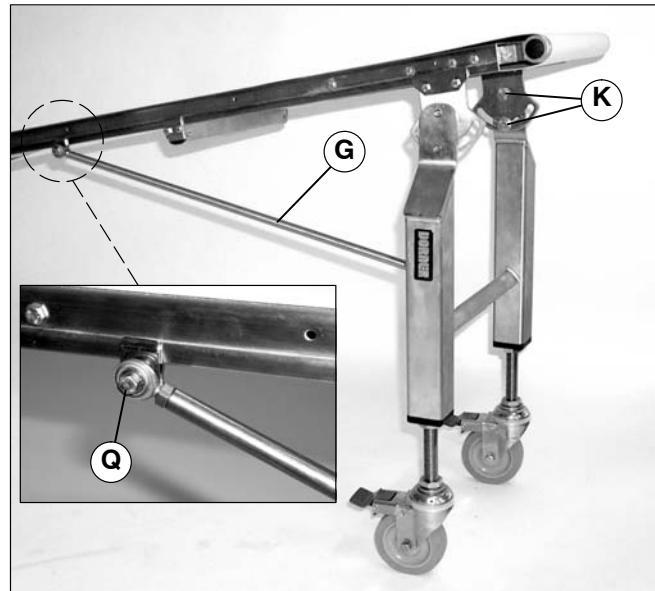

Figure 13
NOTE: If equipped with diagonal brace (G of Figure 13), loosen screw (Q).
1. Loosen two hex head screws (K of Figure 13) on both sides of stand.
Failure to secure screws (K of Figure 13) may cause conveyor sections to drop down, causing severe injury. **TIGHTEN SCREWS (K) AFTER ADJUSTMENT.**